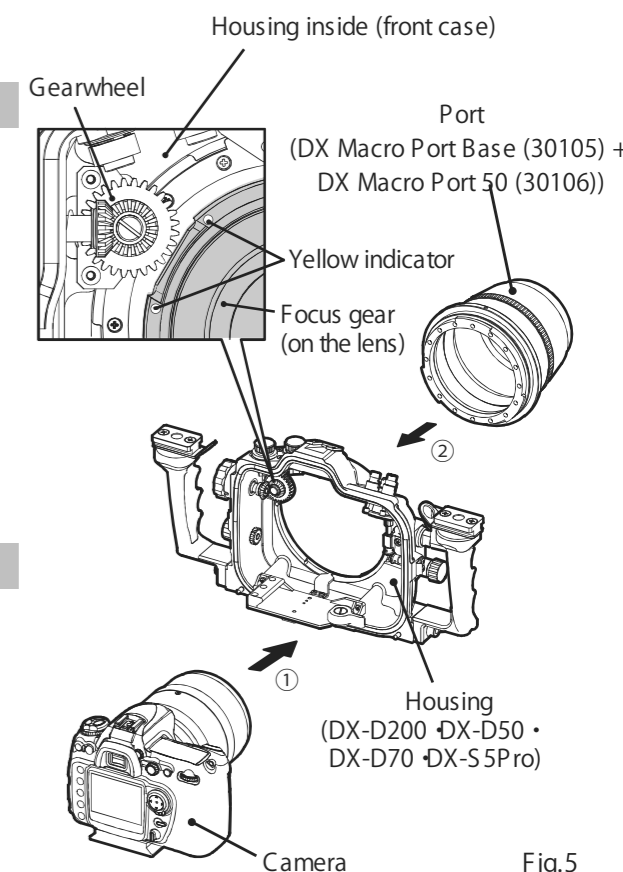

Fig.5
- 3 The gearwheel can only be passed in between the yellow indicators. Carefully slide the camera forward into the housing, while avoiding contact with the focus gear. (Fig.5.①)
- 4 Attach the DX Macro Port Base (30105) + DX Macro Port 50 (30106) to the housing. (Fig.5.②)